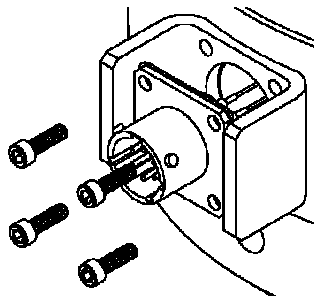

Figure 9 - Attach the Connector Protector (54823-02) using #4-40 x 3/8" Socket Head Cap Screws
5. Attach the connector protector (54823-02) to the load cell with the #4-40 x 3/8” socket head cap screws using a 3/32” hex wrench as shown in Figures 9 and 10.